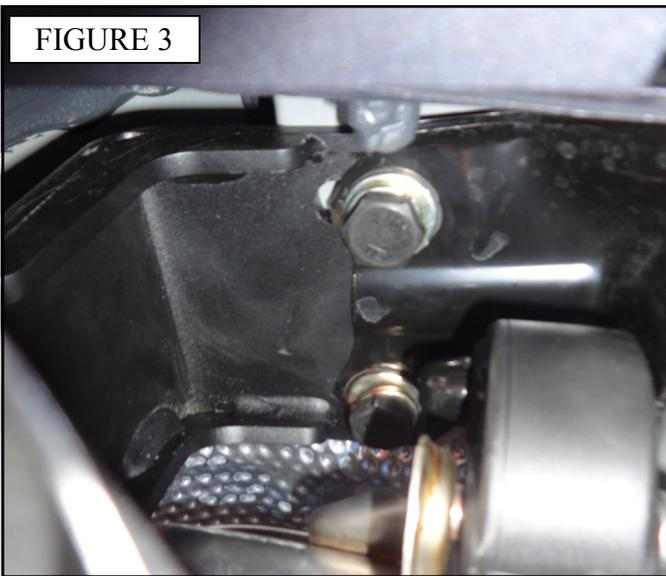

FIGURE 3
6. Attach the passenger side mounting bracket to the vehicle with the exhaust hanger bracket stacked below. Use the remaining two M12 hex cap screws, two M12 split lock washer, and two M12 flat washers to fasten. Do not fully tighten at this time. Figure 3